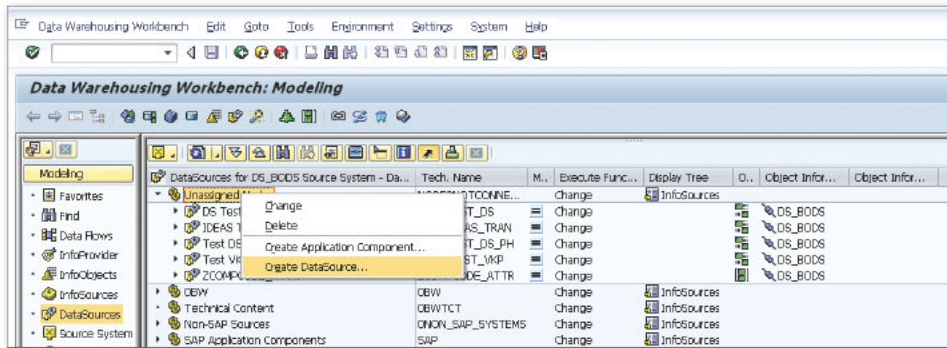

Figure 1 Creating a DataSource in SAP NetWeaver BW with SAP Data Services as the Source System
1. Log in to the SAP NetWeaver BW system and in the Administrator Workbench, go to the DATASOURCES option. Right-click on the application component (here we choose UNASSIGNED), and click on CREATE DATASOURCE as shown in Figure 1.